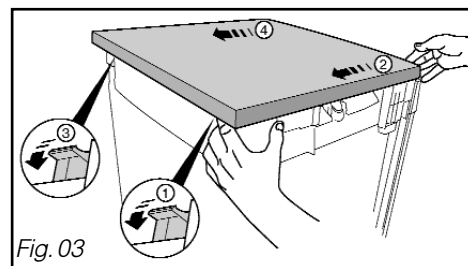

Fig. 03
– Remove the top by unclipping it from the back of the appliance and pushing it a few cm to move it (Fig. 03).
– Lift the top of your dishwasher to release it (Fig. 03).